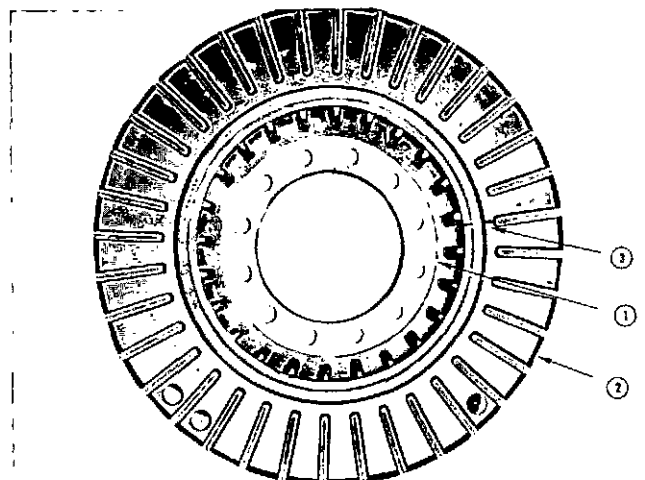

Fig. 5-45. Vibration damper alignment marks
Damper hub (1, Fig. 5-45) and inertia member (2) are stamped with an index mark (3) to permit detection of movement between the two components.